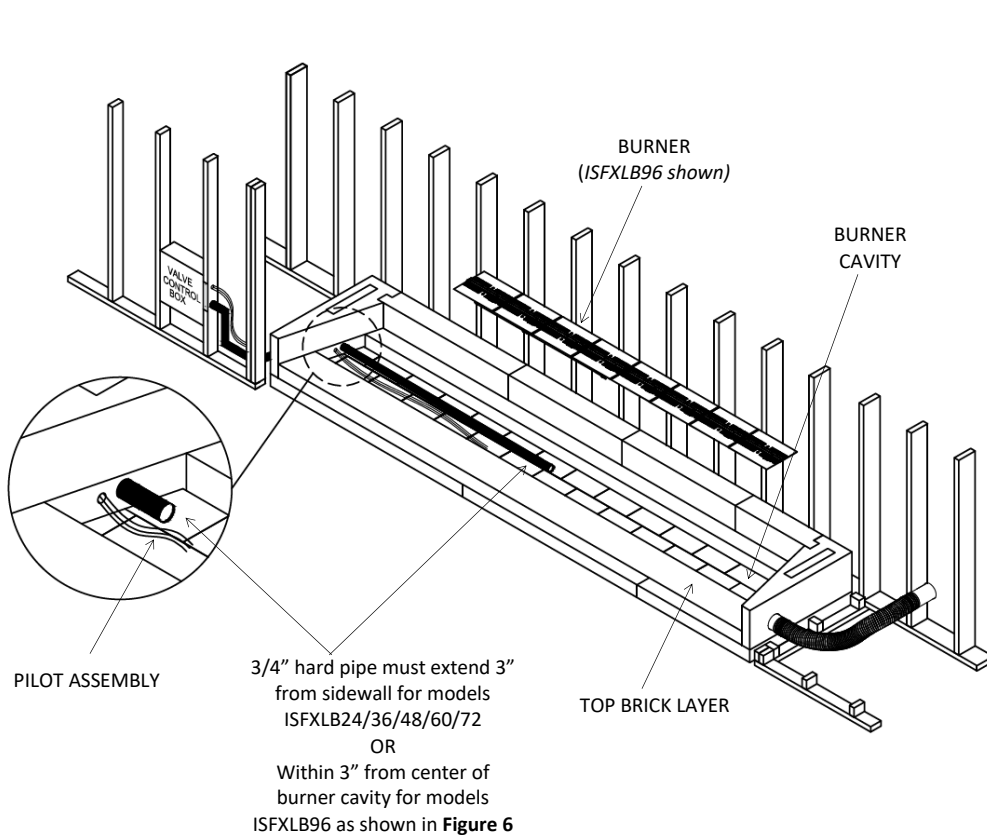

FIGURE 6
- 5) The ISFXLB24/36/48/60/72 (N/P) (respectively): Gas supply piping for these models shall terminate not less than 3" from sidewall. **(Figure 6)**
- 6) The ISFXLB96 (N/P) (respectively): Gas supply stub piping for this model shall terminate within 3" from center of the cavity. **(Figure 6)**